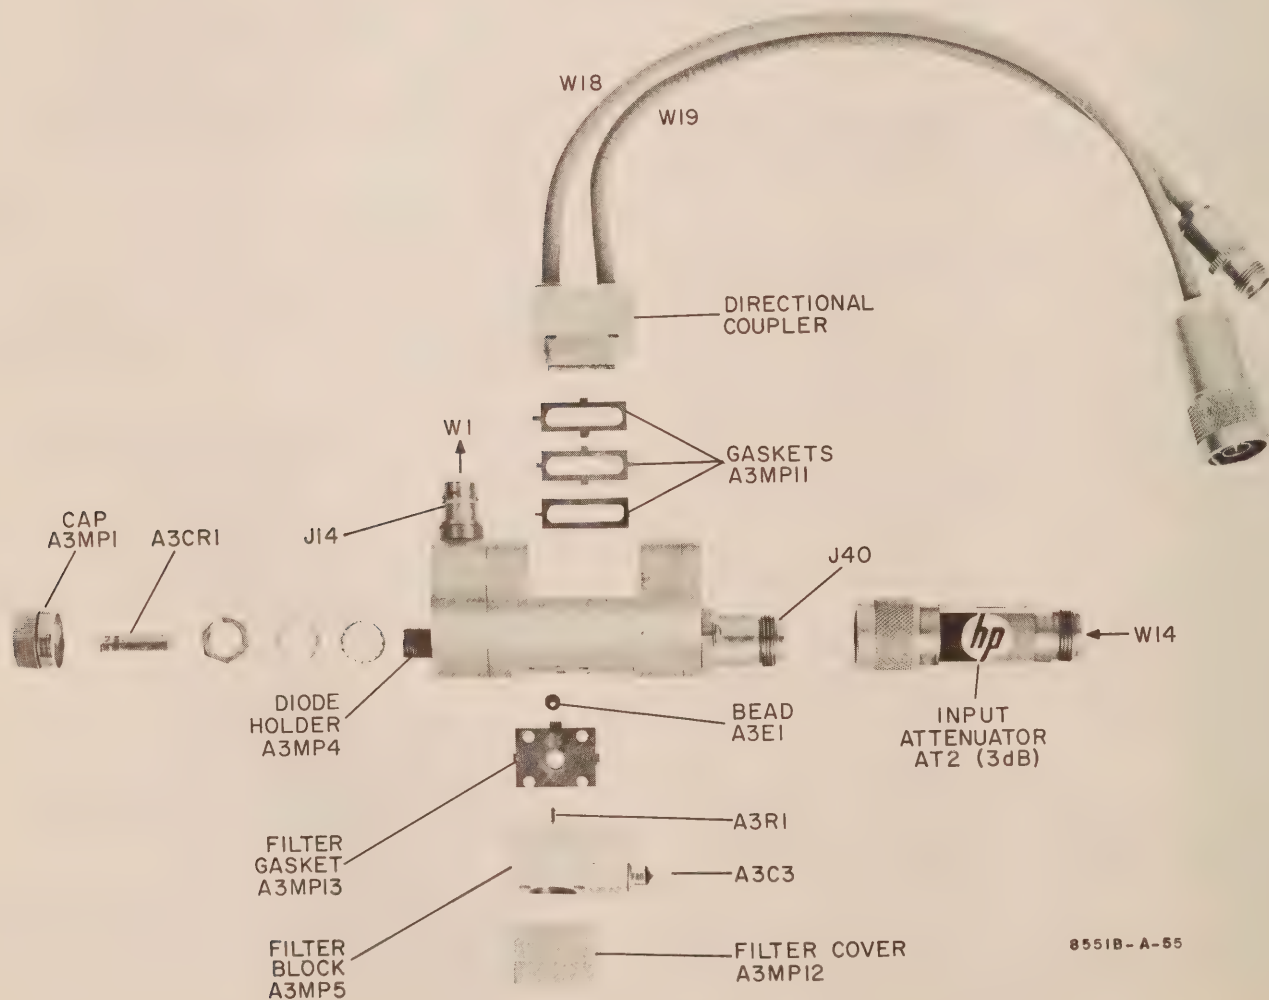

Figure 5-26. Coaxial Mixer Assembly A3, Exploded view
- b. Remove Mixer Diode Cap A3MP1 (Figure 5-26).
- e. Remove machine screws (4) securing Filter Block A3MP5 to mixer body (Figure 5-26).
- (1) Watch for a polyiron bead that can drop out, and place it in a safe place.
- (2) Place screws, washers, filter cover and gasket in a safe place.
- (3) Note orientation of A3R1 in relation to Filter Block A3MP5.